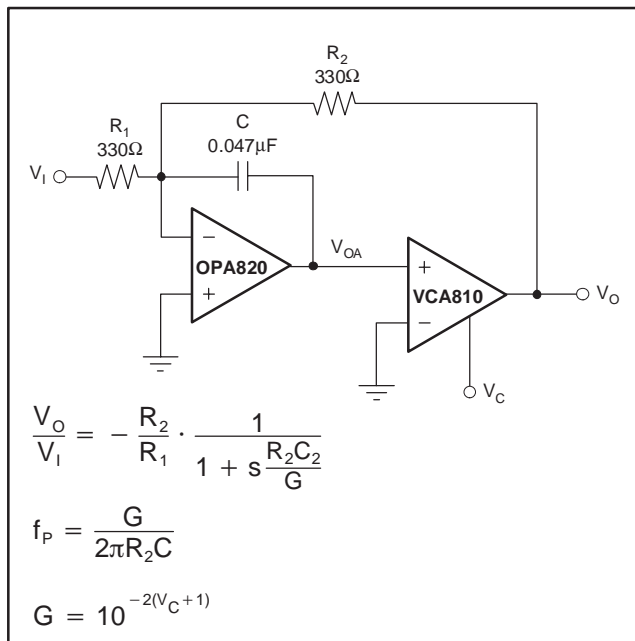

Figure 11. Tunable Low-Pass Filter
In the circuit of Figure 11, the VCA810 serves as the variable-gain element of a voltage-controlled low-pass filter. This section discusses how this implementation expands the circuit voltage swing capability over that normally achieved with the equivalent multiplier implementation. The circuit response pole responds to control voltage  $V_C$  according to the relationship in Equation (3):